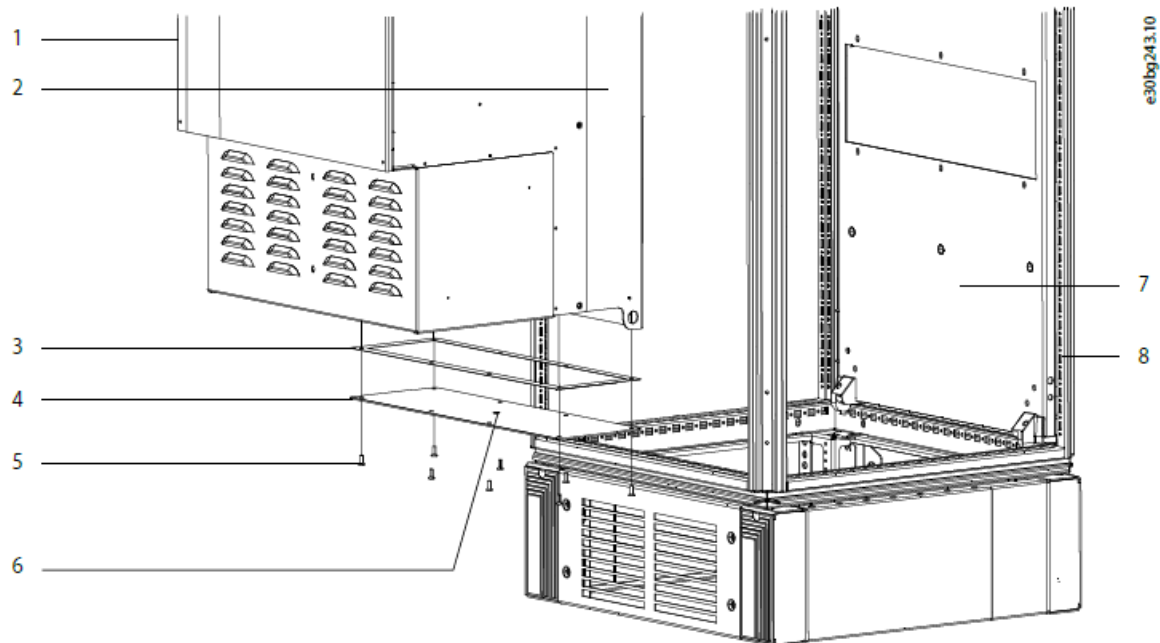

Figure 8: Installation of the Bottom Cover
- To install the bottom cover at the lower end of the cooling back channel, use the following steps. See Figure 8.